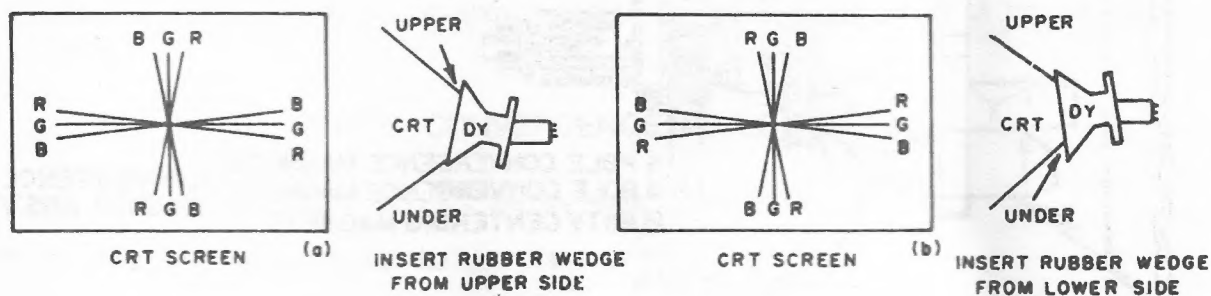

Fig. 9
2. Insert wedge temporarily and fix the Deflection Yoke so as to obtain the best circumference convergence (See Fig.9 and 10).
- 1) Tilting the angle of the yoke up and down adjusts the crossover of both vertical and horizontal red and blue lines. See Fig.9.